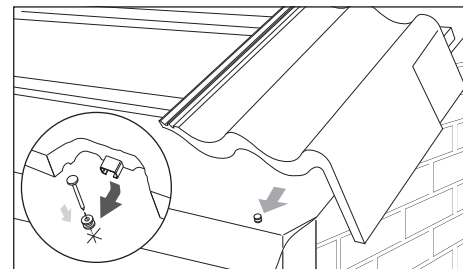

Fig. 3 – Allow play for verge unit to slide down
- 9 Leave a small amount of play to allow cloak verge unit to slide down and engage spacer unit (Fig. 3).